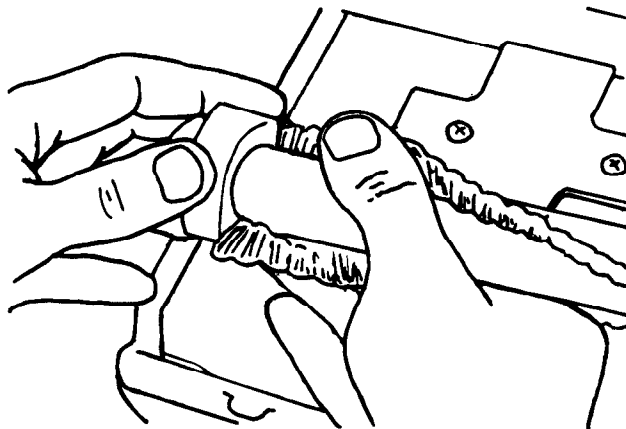

Figure 2
- b. Look closely at the two white bearing blocks and note that a number (1) shows on each block.
- d. Hold the brush and rotate each of the two white bearing blocks until you see the number (2) on each block. See **Figure 2**.